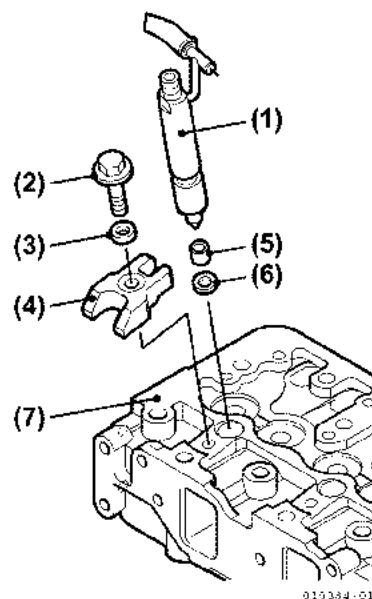

Figure 6-10
7. If the injection nozzle gasket did not come out together with the injection nozzle, remove it from the bottom of the injection nozzle seat (Figure 6-10, (6)).